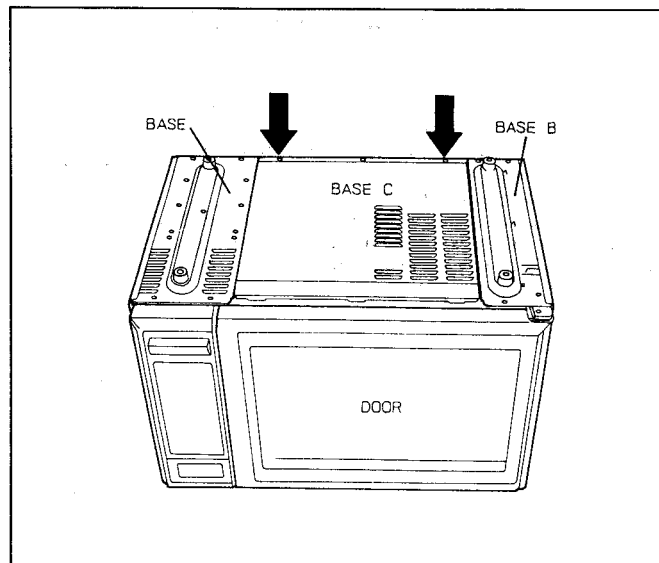
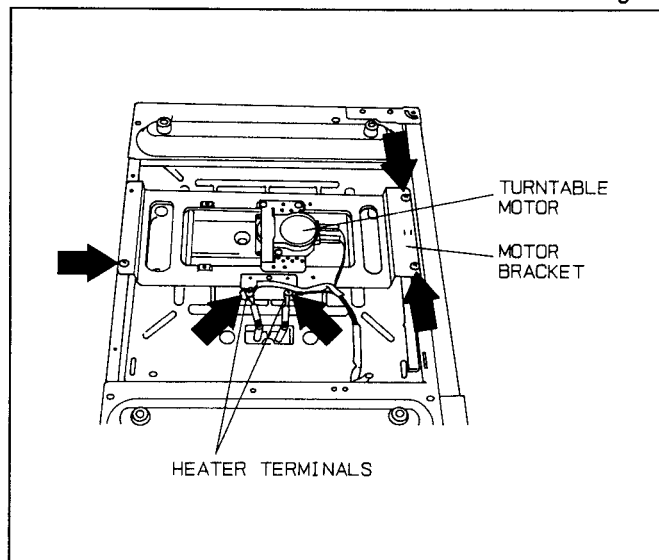

Fig. 28
Fig. 29
- (A) Remove the tray and the turntable from oven cavity.
- (B) Carefully turn the oven up side down.
- (C) Remove the base C by removing 2 screws. (Fig. 28)
- (D) Disconnect the turntable motor connector.
- (E) Remove 2 screws holding 2 heater terminals. (Fig. 29)